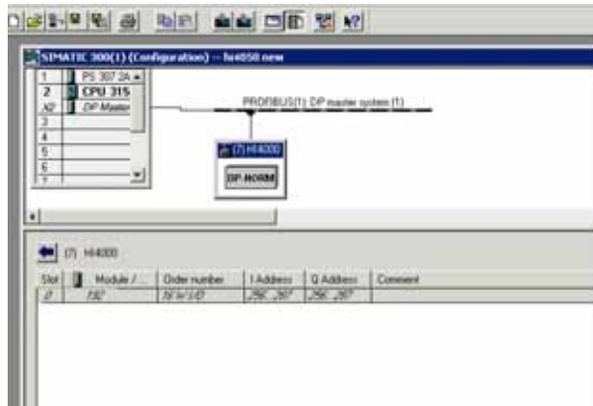

FIG. 169 INITIALIZATION COMPLETE
Step 12. When the download is complete the HW Config dialog box should look something like this. (See Fig. 169)